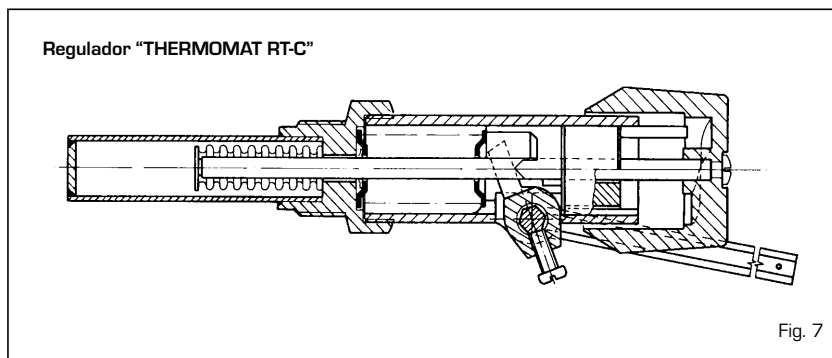

Fig. 7
4.6.1 Regulador "THERMOMAT RT-C" (fig. 7)